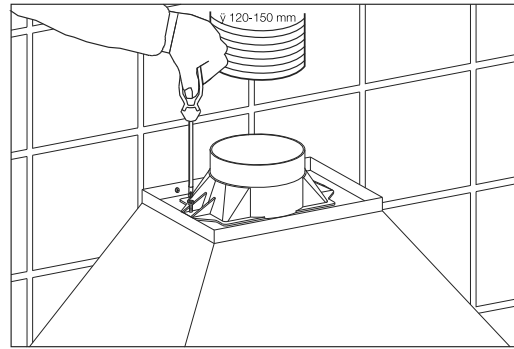

Fig. 1a
- In this mode fumes are extracted to the outside via a **hose** connected to the **coupling ring**, **Fig. 1a**.